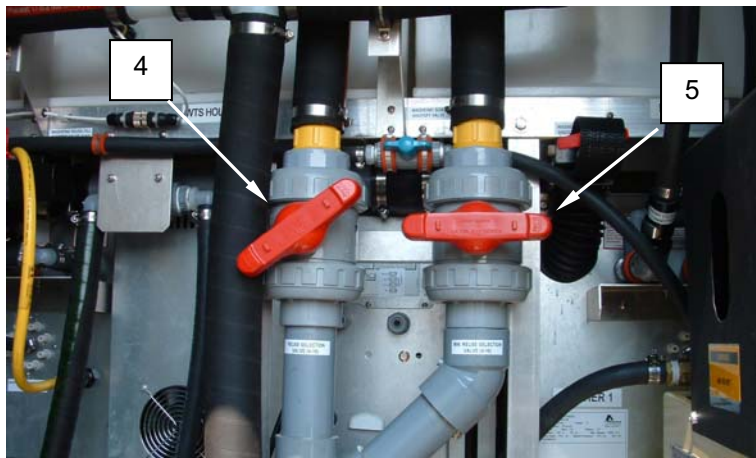

Figure 7. Sodium Bisulfite Preservation Procedure – Valve Settings
- Ensure that the bypass valves V-15 (**Figure 7, Item 4**) and V-16 (**Figure 7, Item 5**) are in the positions shown so that the water reuse system is engaged.